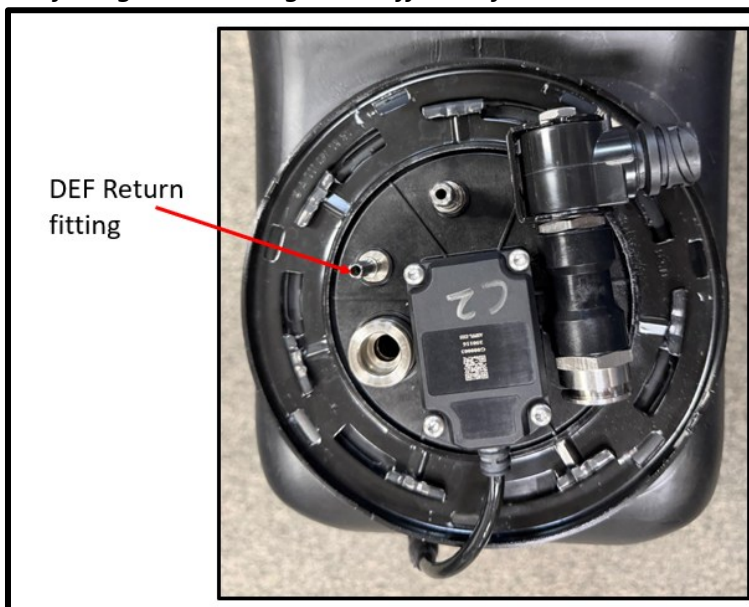

Figure 2.10 DEF Return Fitting Location
- 8) Install a DEF return hose to the DEF return fitting per OEM service guidelines. Below **Figure 2.10** shows the return fitting location.